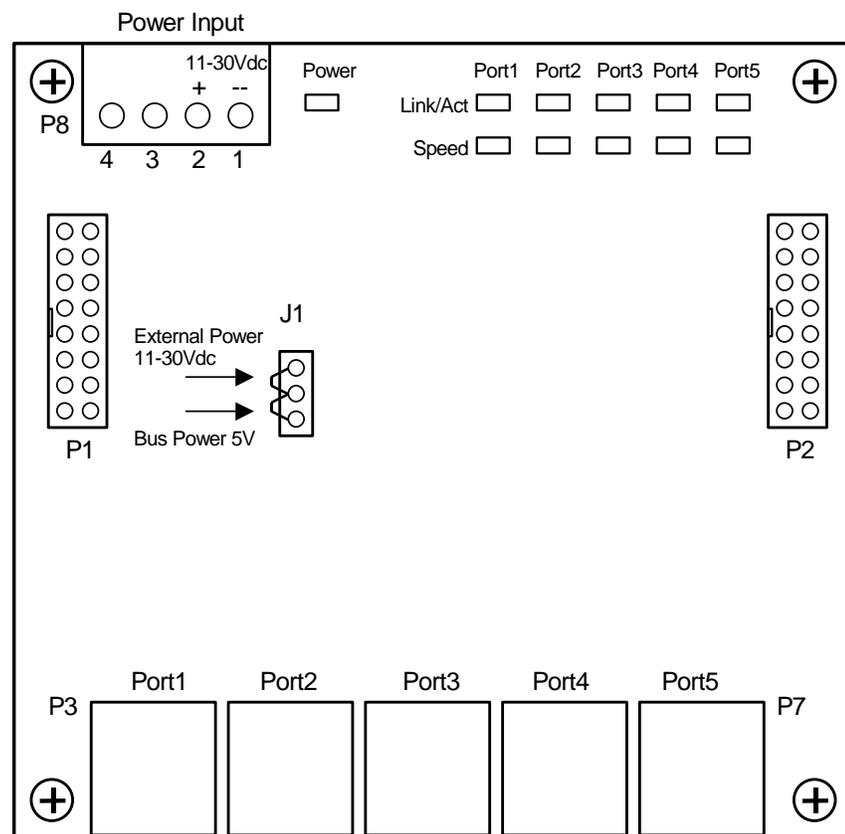

Figure1: 5910 Module Layout
The 5910 module has six connectors for field wiring. Refer to **Figure1: 5910 Module Layout** for the location of these connectors.
- Locate connector P8 on the 5910 module. Refer to **Figure1: 5910 Module Layout** for the location of P8.